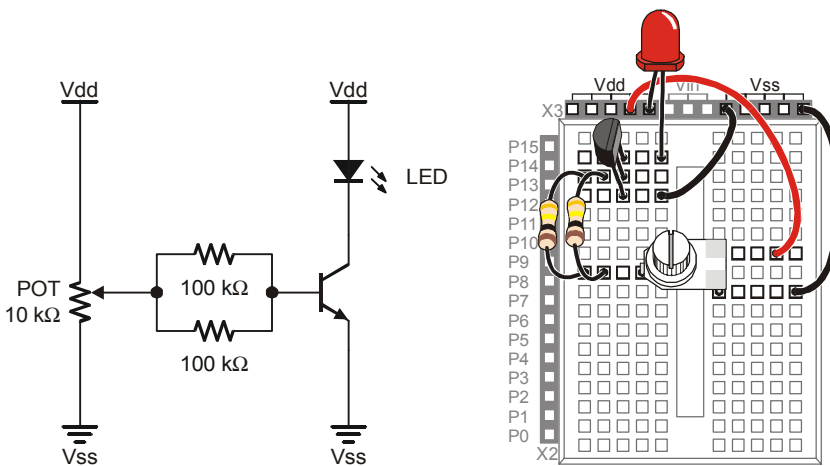

Figure 9-3
Figure 9-3 shows a circuit that you can use to manually control how much current the transistor allows through the LED. By twisting the knob on the potentiometer, the circuit will deliver different amounts of current to the transistor's base. This will cause a change in the amount of current the transistor allows to pass from its collector to its emitter. The LED will give you a clear indication of the change by glowing more or less brightly.
- √ Build the circuit shown in Figure 9-3.